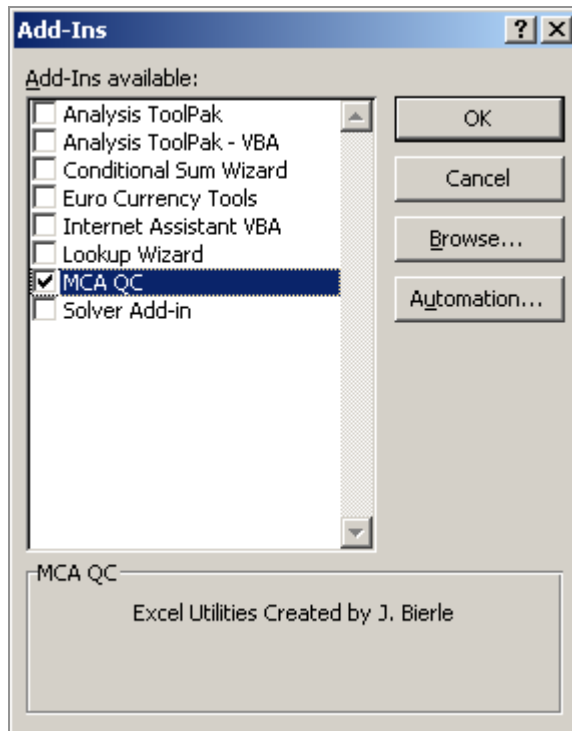

Figure 110 MCA QC File Add-In Now Available
- The "MCA QC" Add-In should now be available in the **Add-Ins** list (Figure 110).